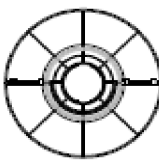

FIG. 2
3. flip the product and screw it to the base (Fig. 2 and 3).